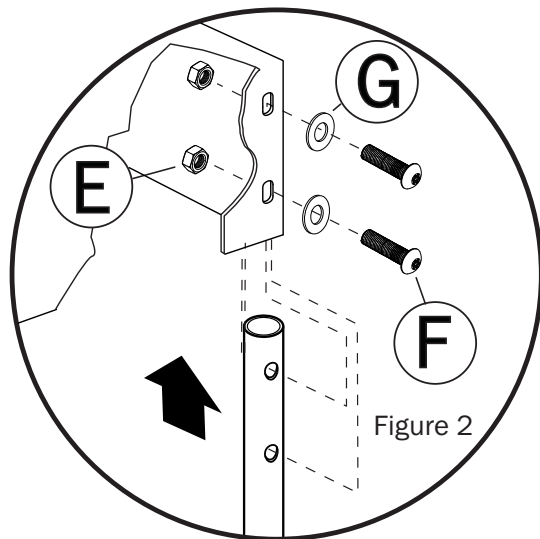

Figure 2
5. Insert (2) Bolts(E) and (2) Flat Washers (F) into ADA Handhold(A), into holes in ADA Deck and secure with (2) Flat Washers(F) and (2) Lock Nuts(D). See *Figure 2*.
3. Align slots on side of ADA Step(A) with holes in Extension Post(B) and insert (2)Bolts(F) and (2)Flat Washers(G) through holes in ADA Step(A), through Footer Post(B) and secure with Lock Nut(E). See Figure 2.